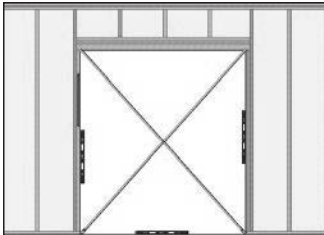

FIG. 4
- B) Verify the rough opening is plumb, level and square. (Fig. 4)
- C) Take diagonal measurements to check for square. (Fig. 4)
- D) The post interlock seals the doors to the building and are supplied with the unit. They also require a continuous plane of building material for mounting. (Fig. 4)